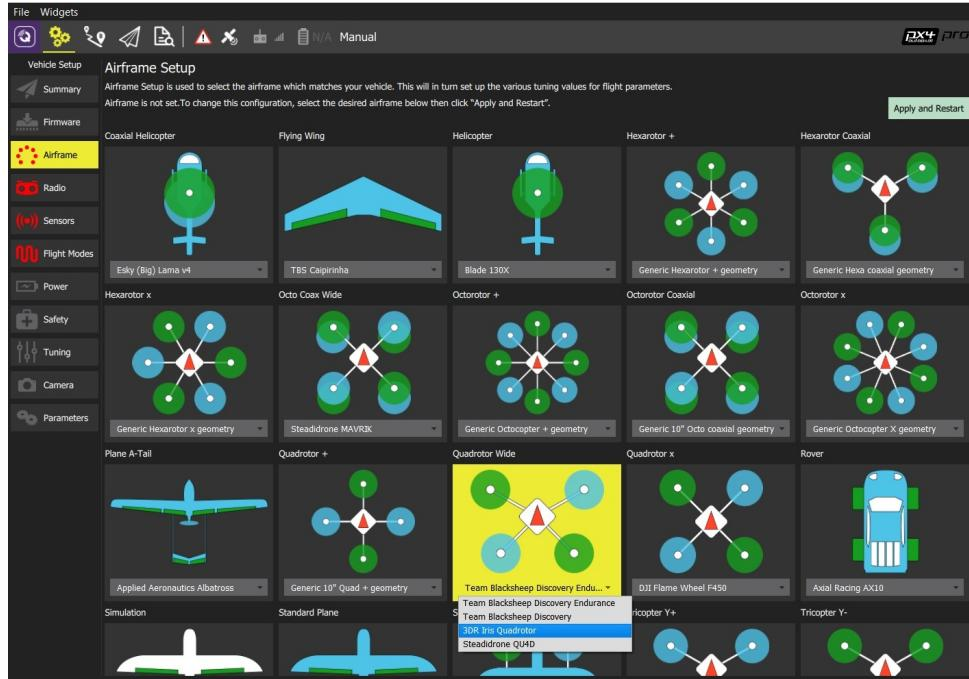

Figure 3.6: Airframe apply prompt
3. Select the broad vehicle group/type that matches your airframe and then use the dropdown within the group to choose the airframe that best matches your vehicle (example in figure 3.6).